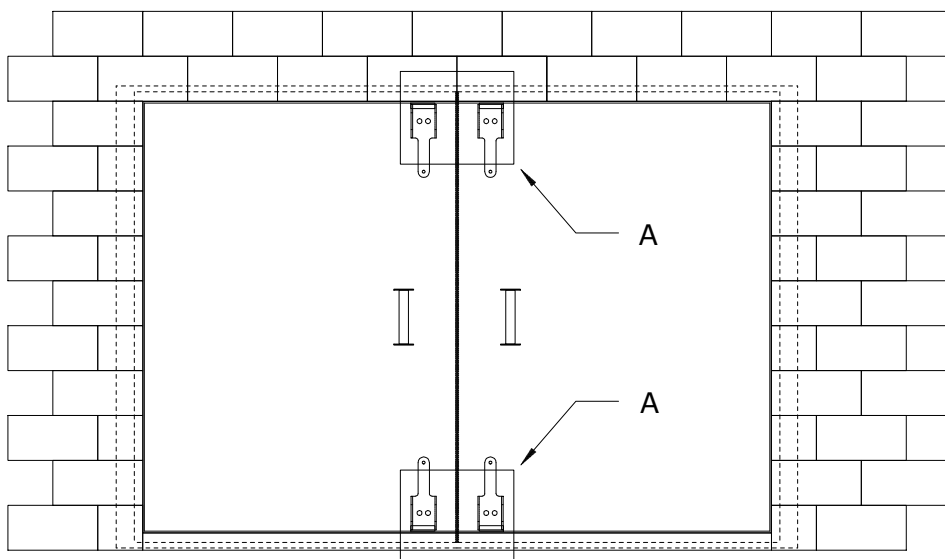

Figure 19
- b. Set the gap distance between the doors edges as shown figure 19 and 19A using the two provided 3/16" thick metal shim bars as spacers.